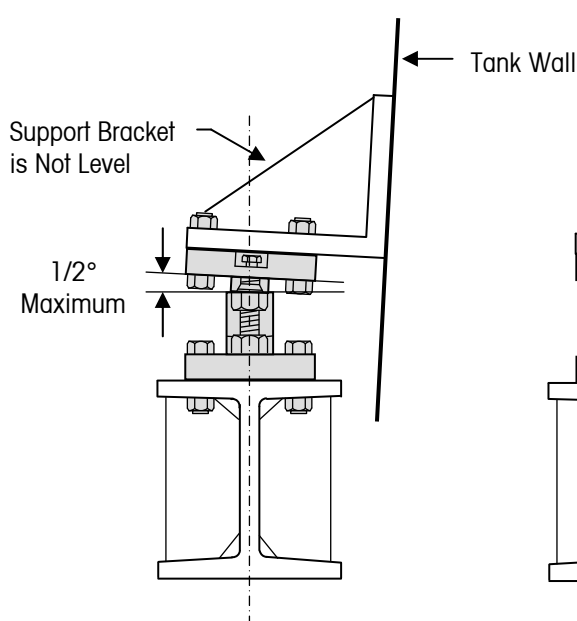

Figure 5-8a
- Figure 5-8a: Support bracket is out of level, applying side forces to the load cell.